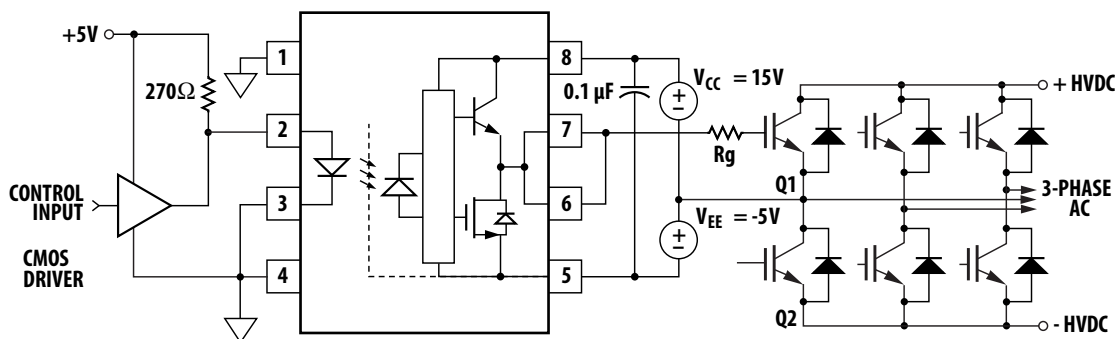

Figure 26. ACPL-312U typical application circuit with negative IGBT gate drive.
Step 1: Calculate R_g Minimum from the I_{OL} Peak Specification. The IGBT and R_g in Figure 26 can be analyzed as a simple RC circuit with a voltage supplied by the ACPL-312U.
For the circuit in Figure 26 with I_F (worst case) = 16 mA, $R_g = 8 \Omega$, Max Duty Cycle = 80%, $Q_g = 500 \text{ nC}$, $f = 20 \text{ kHz}$: